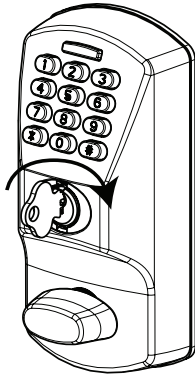

Fig. 5
2. Insert key and rotate it clockwise until it stops. See Fig. 4 & Fig. 5.